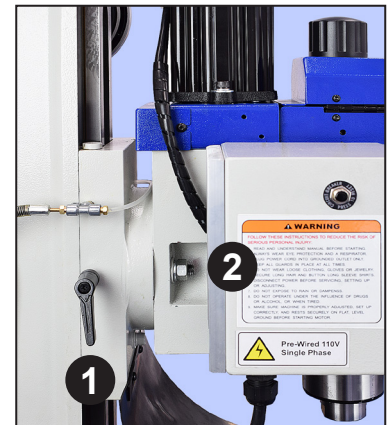

Figure 3-12 Z-axis lock (1)
For milling operations calling for precise, repeatable control of tool depth, tighten knob (4) to engage hub (1) with the internal taper on sleeve (3). Tighten the Z-axis lock, Figure 3-12.
The headstock is secured by two nuts spaced on either side, Figure 3-12. The headstock is top-heavy, and may swing suddenly to either side unless a helper is on hand to restrain it. Testing for movability as you go, carefully loosen the nuts by degrees. Be especially careful if the head has not been moved before — the paint seal may let go without warning. (First-time tilting may also call for unusual effort on the wrench.)